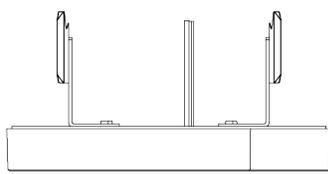

Fig. 8
2. Connect mounting bracket to the fixture by pushing down until it clicks into place. (Fig. 8)